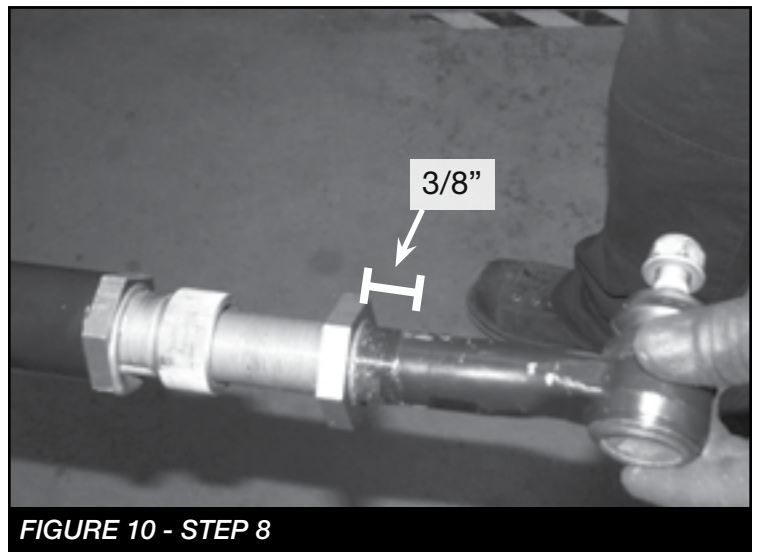

FIGURE 11 - STEP 8
8. Install FT50649 (M29-1.5 Jam Nut) onto the factory rod end. Next, install the rod end into the adjuster. **NOTE: When installing leave 3/8" space between the jam nut and the end of the thread on the rod end. This is a starting point, final adjustments will be made when alignment is made. SEE FIGURES 9-10 for installation and FIGURE 11 for final setup.**